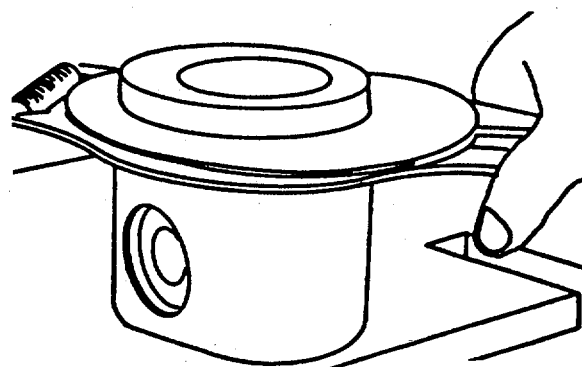

FIGURE 4-53. Installing Top Ring.
- (4) Install the top ring as shown in FIGURE 4-53.